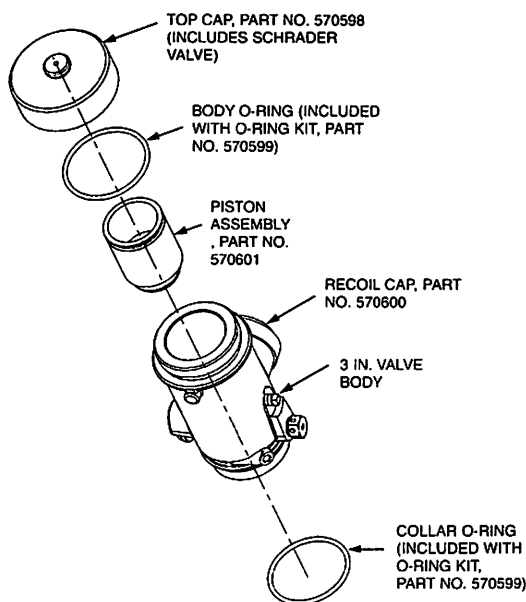

FIGURE 2
- 4a. **3 in. Valve** – Valve cleaning/O-ring replacement instructions. Refer to Figure 2 for component descriptions.